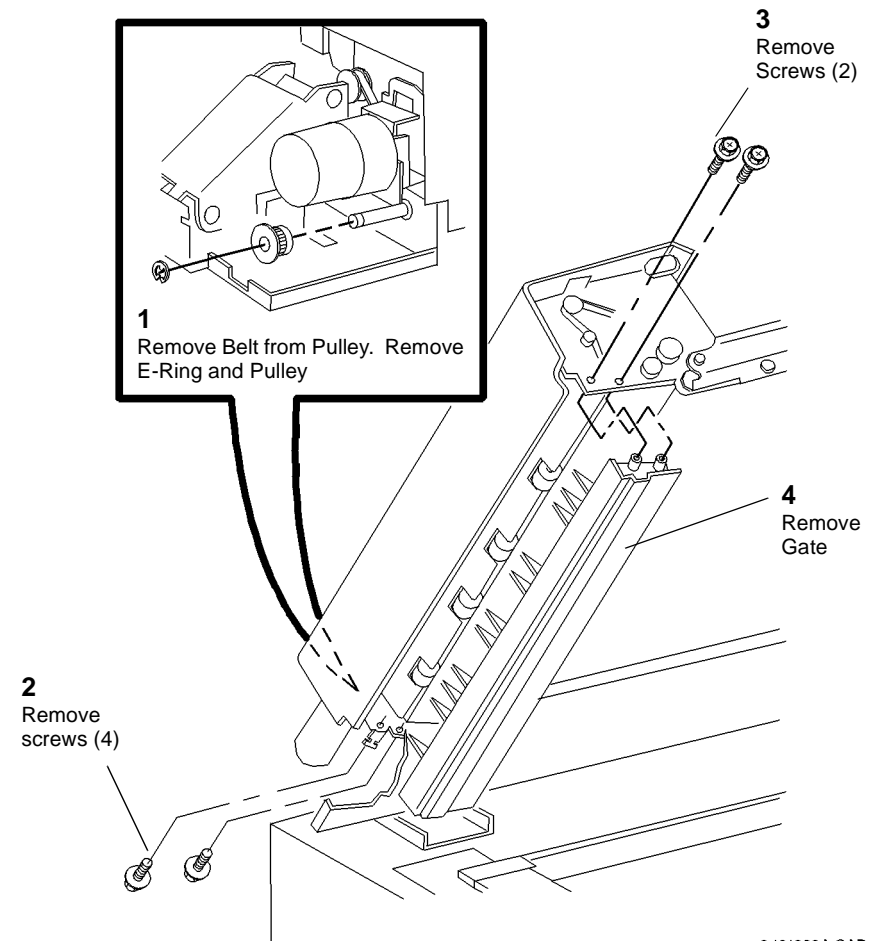

Figure 1 Preparing to remove the Gate
2. Prepare to remove the Gate (Figure 1).